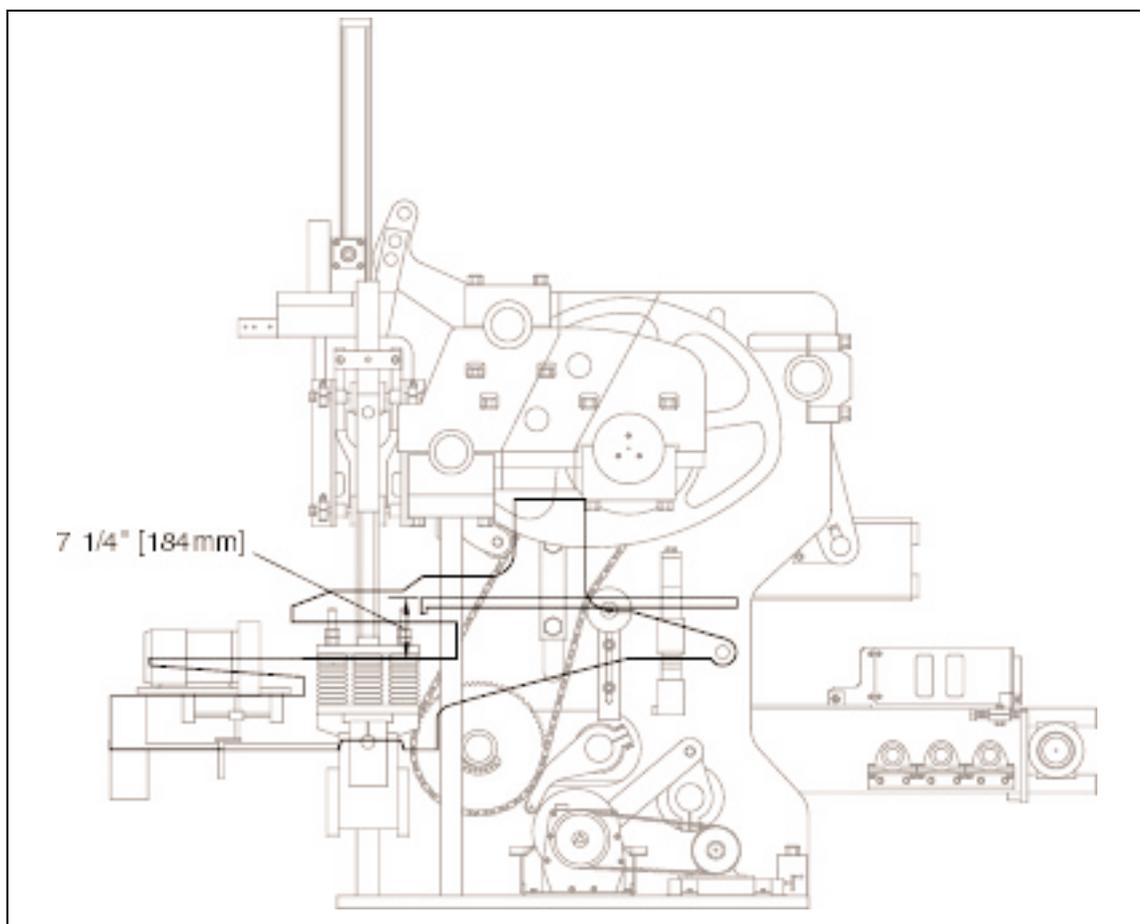

Figure 4.11 APRON PLATE ABOVE MOLD THROAT ADJUSTMENT.
- 4.1.4 Reconnect autofeed linkage and adjust so that the top of the apron plate is **8 3/4" [222mm]** above the mold throat at the lowest position of the autofeed (see figure 4.11). To adjust, lower or raise the autofeed until apron plate is in correct position.